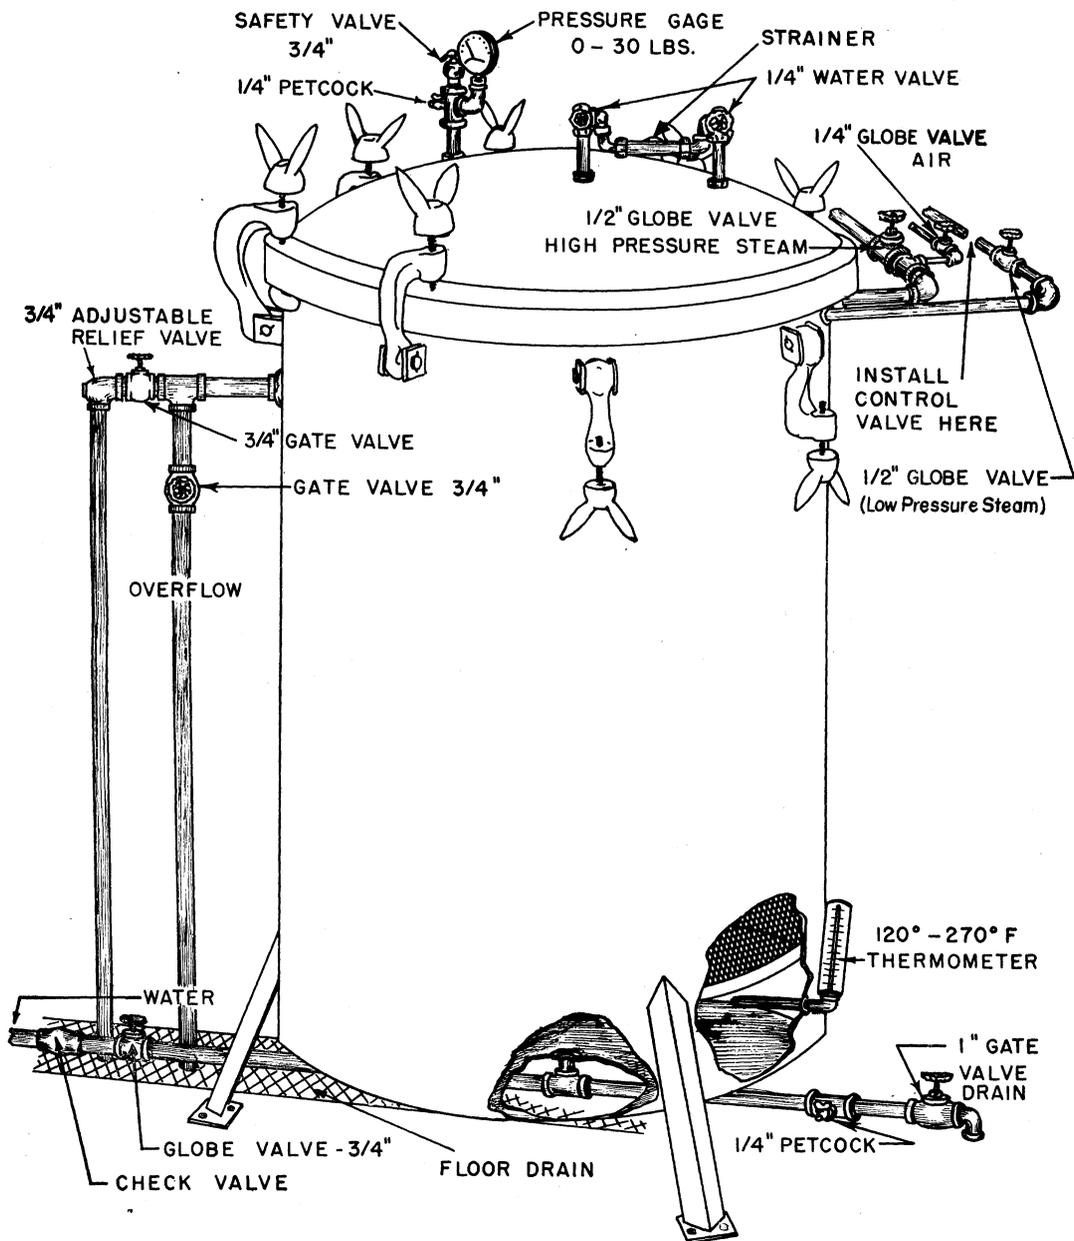
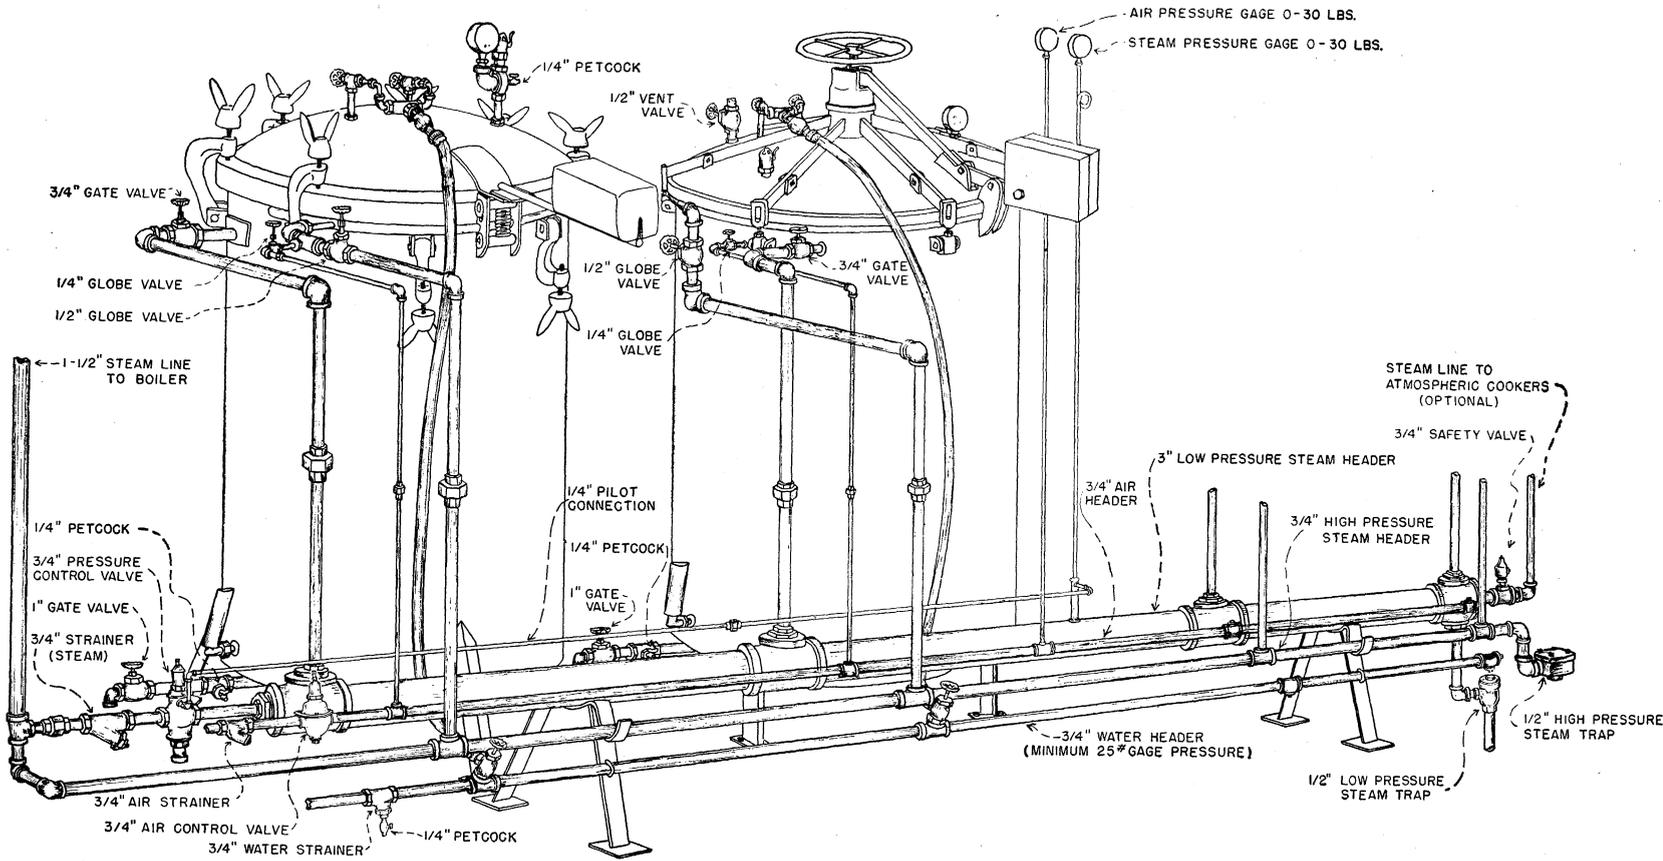

Figure 9.—Retort for glass jars and tin containers of all sizes.
Figure 10.—Piping arrangement to a battery of retorts for processing and pressure-cooling glass jars and small-size tin containers.
Figure 9 shows the same retort with added facilities for pressure-cooling No. 10 tin containers. Water is brought in at the bottom as well as at the top of the retort to speed the cooling operation.
A satisfactory method for installing a battery of retorts is shown in figure 10. It is a practical method for use in community canning centers, as one automatic control valve on a common header regulates the temperature of all of the retorts in the line. The low-pressure steam header must be at
least 3 inches in diameter. This size of header will furnish an adequate supply of steam to as many as six retorts. The header is assembled in the desired length with threaded pipe connections (figs. 10 and 11A), or it may be made from a single pipe with nipples welded at the take-off points (fig. 11B.) To facilitate the removal of condensate, the header is sloped $\frac{1}{2}$ inch per 10 feet toward the steam trap. The pop safety valve, set at 15 pounds pressure, will prevent the building up of excessive pressure in the header. The $\frac{3}{4}$ -inch connecting line between the low-pressure header and the retort is equipped with a gate valve, rather than a globe valve, so as to reduce resistance to the steam flow during processing.
For maximum efficiency use the sizes of pipe indicated for steam, air, and water. Place the header pipes close to the retort line and cover the steam header pipes with asbestos or any suitable insulation. Fit the steam, air, and water lines between the headers and retorts with the proper kind of hand valves specified in figure 10. These valves should be of the right sizes and designed for the purposes intended. Do not use water valves on steam lines or vice versa. All valves used should be constructed of noncorrosive metal, preferably bronze. They should be built to withstand pressure up to 125 pounds per square inch and have replaceable seats, plugs, or discs. If the working parts of the valves are replaceable the cost of maintaining the valves will be greatly reduced.
Retorts installed as shown in figure 10 may be used for processing and pressure cooling glass jars or small-size tin containers. If No. 10 cans are also used it will be necessary to add the extra piping facilities shown in figure 9.
The proper installation of a back-pressure pilot-operated valve to control the temperature in a battery of retorts is shown in figure 10. The valve is installed on a $\frac{3}{4}$ -inch steam line between the main steam supply line and the 3-inch header. To enable the valve to operate at peak efficiency, the following should be kept in mind: (1) The length of the pipe between the main steam line and the valve, and between the valve and the header, is kept short; (2) a strainer is installed between the main steam line and the valve; (3) the pilot opening on the valve is connected to the header by means of a $\frac{1}{4}$ -inch feeler line to enable the valve to respond quickly to pressure changes in the header; and (4) a steam trap is installed on the high-pressure steam header to remove condensate, thus insuring a good-quality steam.
Figure 11 shows two hook-ups for an air-actuated temperature-control valve. The hook-up shown in figure 11A is for the same steam header as that shown in figure 10. The hook-up shown in figure 11B is an alternate arrangement on a welded steam header. Either hook-up is satisfactory, but in figure 11A the thermal bulb is installed in a plate welded in the end of the header rather than in a screwed fitting. This welded installation eliminates the mass of metal which otherwise would surround the bulb and act as a source of heat, thus delaying the response in the controller when the temperature in the header drops.
For best results use a $\frac{3}{4}$ -inch air-header pipe between the compressor and the retorts. However, if there is an abundant supply of air a $\frac{1}{2}$ -inch pipe will be adequate. Reduce it to $\frac{1}{4}$ inch before it enters the retort. Install the air-control valve near the retort assembly as shown in figure 10.